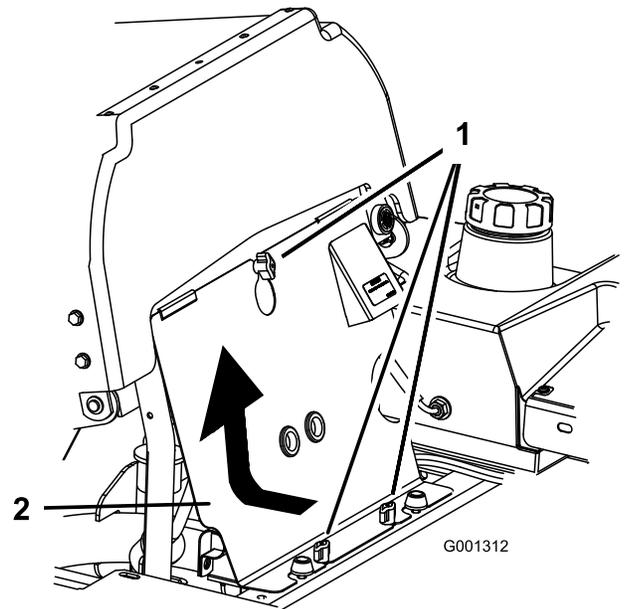

Figure 91
3. Loosen the front engine panel knobs and remove the panel (Figure 91).